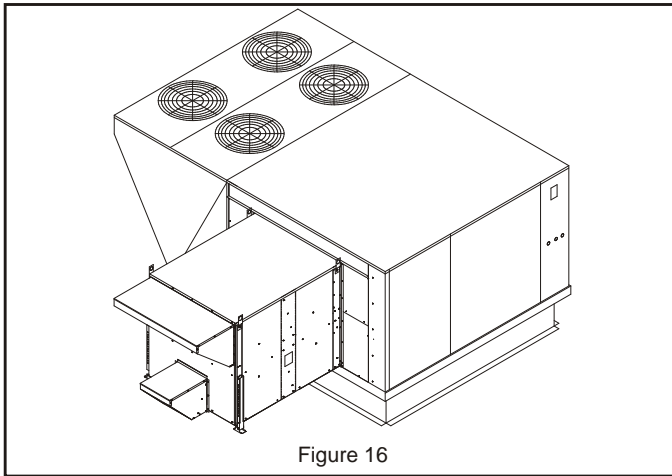

Figure 16
- Check and seal, if necessary, along the edges where the ERS meets the rooftop unit to ensure there is no air leakage. Final assembly should resemble **Figure 16.**